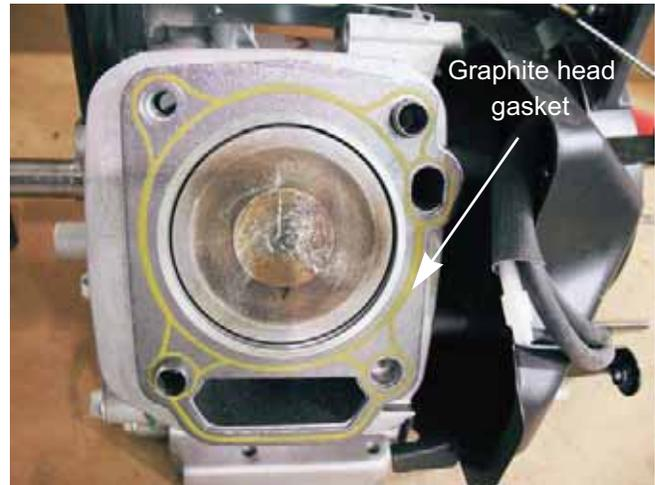

Figure 9.8
1. Place a new head gasket on the cylinder, allowing the alignment dowels to hold it in place. See Figure 9.8.